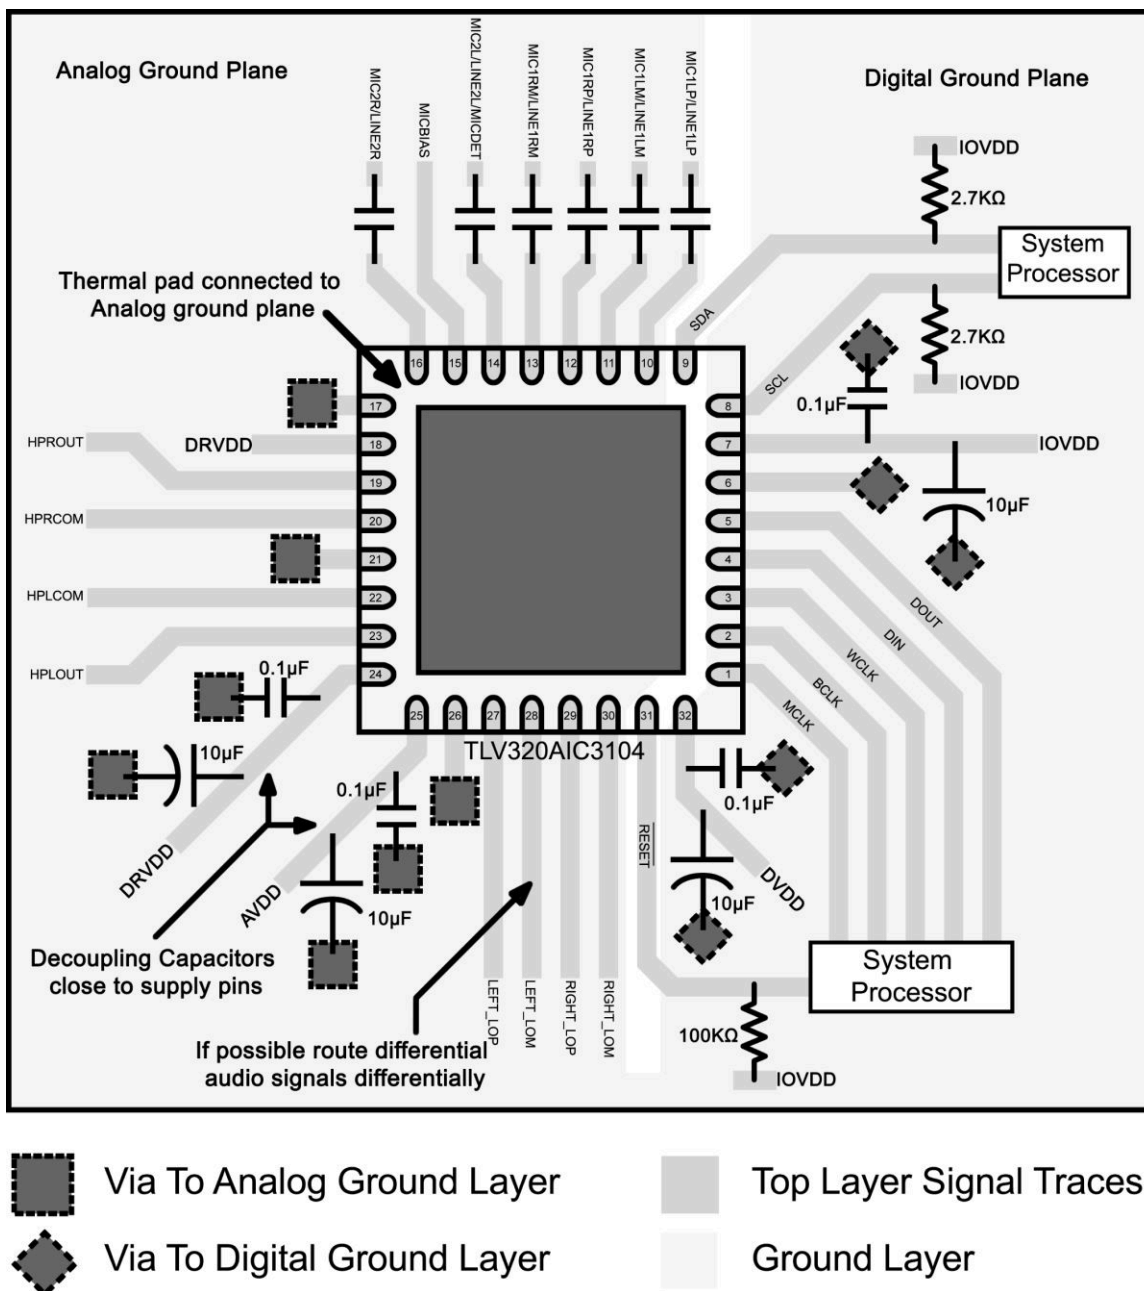

Figure 13-1. Layout Example
- Following the recommended component placement, schematic layout and routing given in Figure 13-1, integrate the device and its supporting components into the system PCB file.